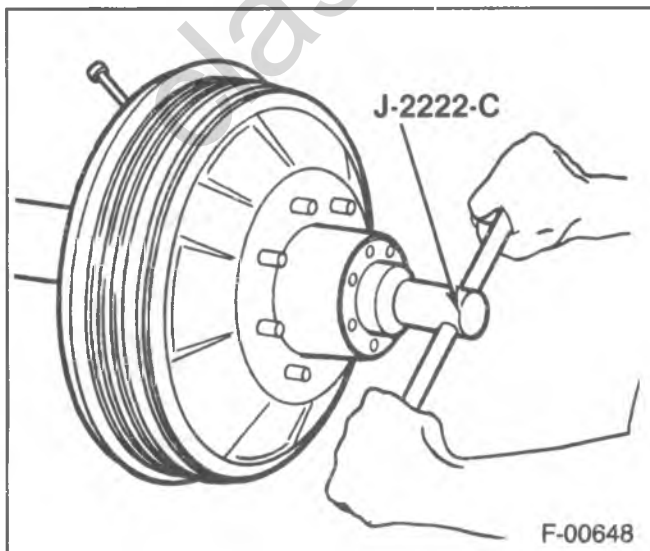

Figure 24—Removing or Installing Bearing Adjusting Nut
2. Axle shaft (52) as outlined earlier in this section.
3. Nut (40) use J-2222-C or retaining ring (56). Refer to figure 24.
4. Lock (41) or key (57).
5. Adjusting nut (42, 58). Refer to figure 24.
6. Washer (43).
2. Washer (43). Tang into key way.
3. Adjusting nut (42, 58). Refer to figure 24.
- Bend the tang to the flat of the adjusting nut (42) or insert the key (57).
5. Nut (40) or retaining ring (56). Refer to figure 24.